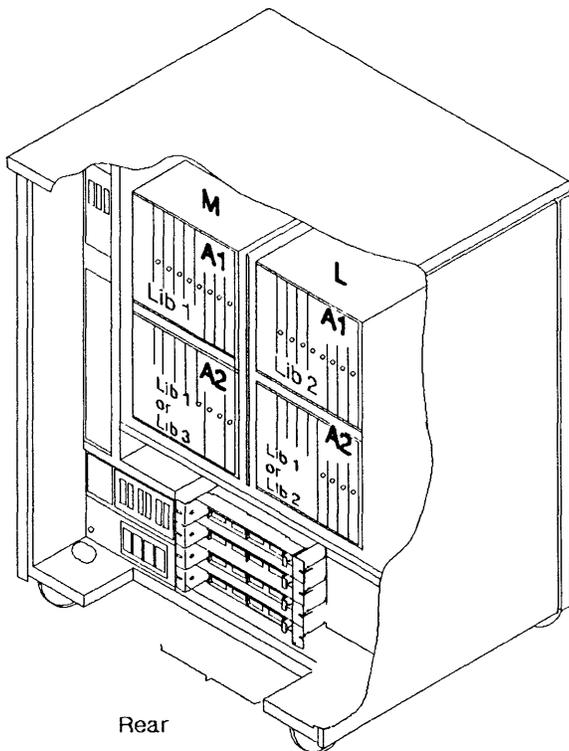
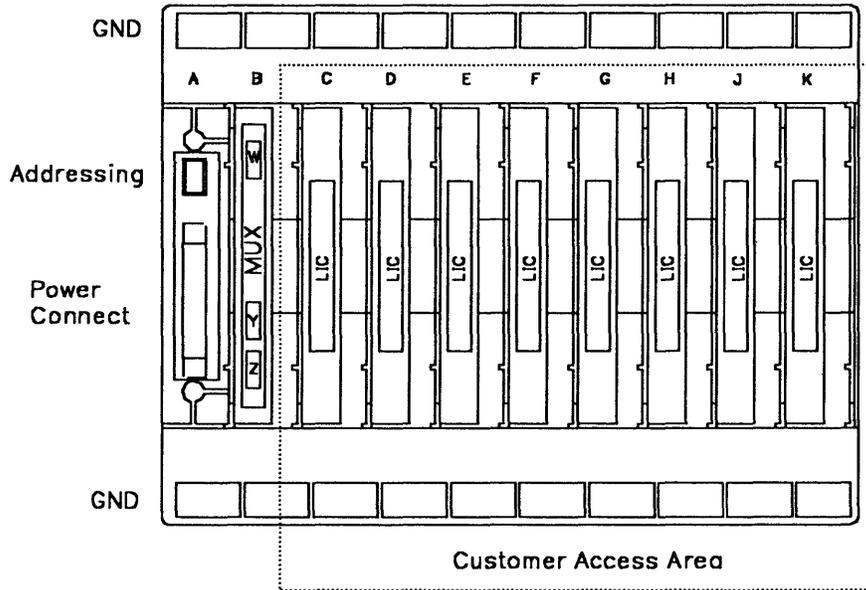
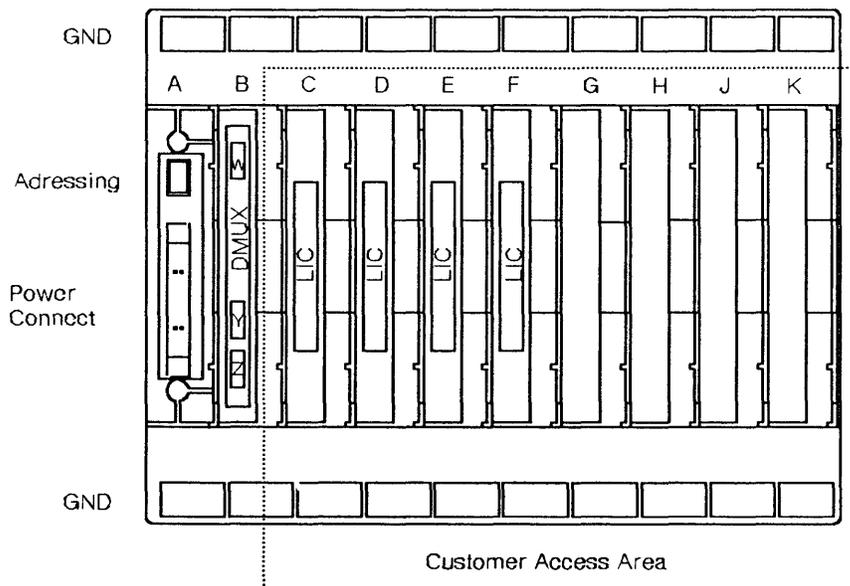

Figure 4-54. Location of the LIC Boards
Figure 4-56. LIC Board Type 1 and 2
Figure 4-57. LIC Board Type 3
1. For physical locations, refer to Figure 4-54, to Figure 4-56 and to Figure 4-57 on page 4-43.